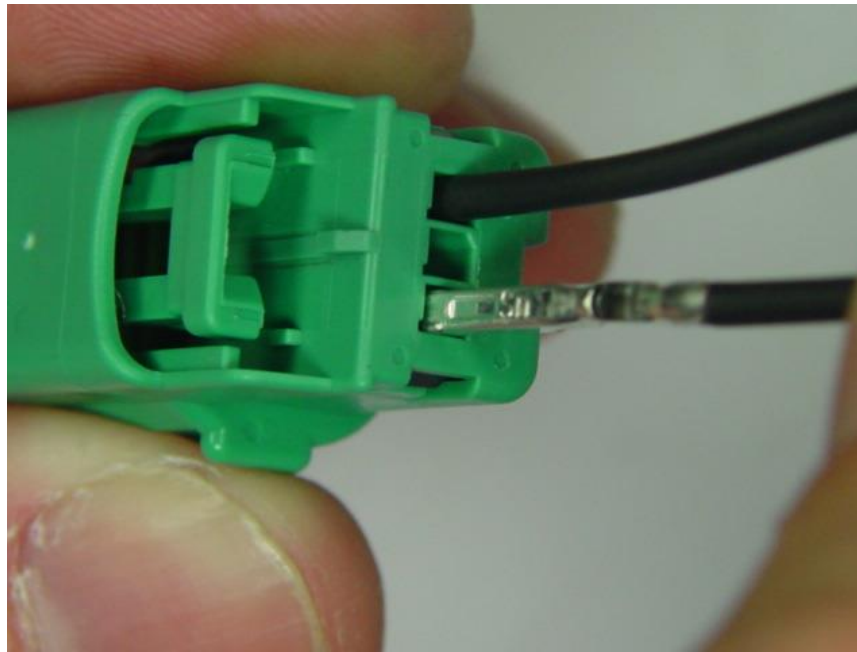

Fig. 5-12
- Once the terminal lock finger is disengaged, pull on the wire (Fig. 5-12) to release the terminal.